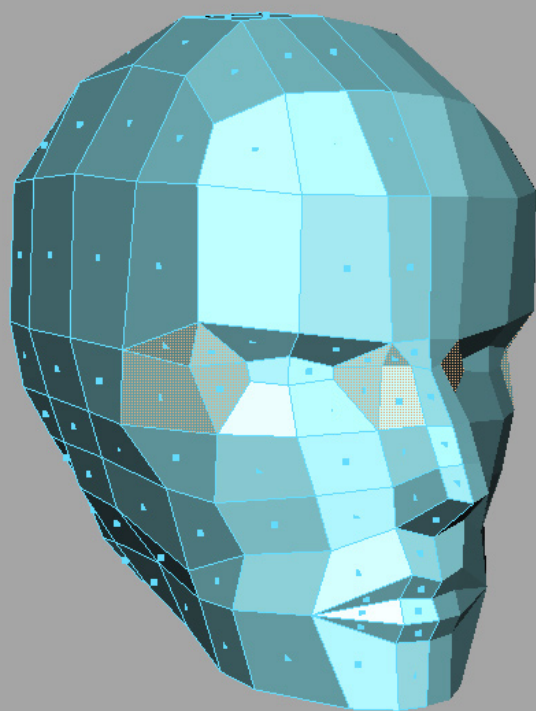

Fig 11
11. Now we only have to work on one side of the head only and the other side will update with us. Using the Split polygon tool cut in a couple extra edges at the corners of the eye socket and shape them. This will create a slightly more convincing eye socket. (Fig 11)